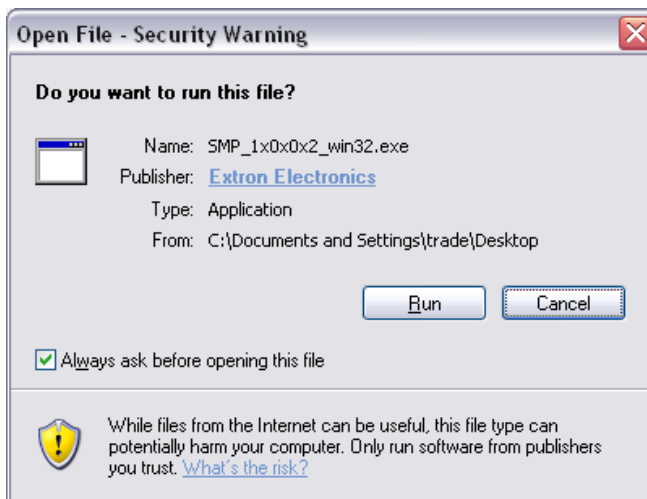

Figure 35. Security Warning
6. When the installation files are downloaded, a security warning dialog box appears. Click **Run** to begin the installation (see figure 35).